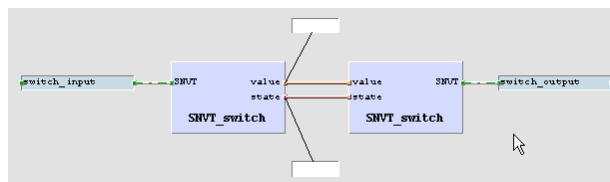

Figure 53: Online Test fields
13. Place the fields above and below the drawing as shown in Figure 53, then press the **Save** button to save your changes.